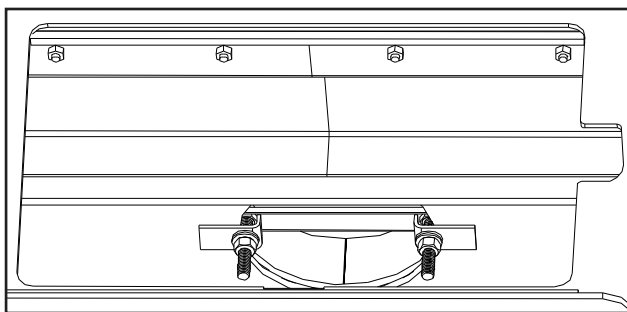
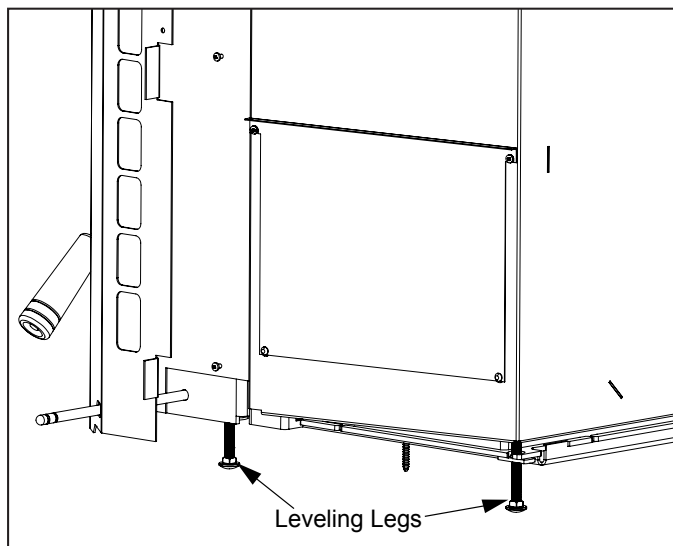

Figure 14: Removable flue collar in place.
Figure 15: Leveling legs.
- f) Place the Collar Puller, over the two bolts of the Flue Collar and pull it into place (see Figure 14). Ensure that the bolts are to the left and right of the hole. If they are not, the front secondary air tube will need to be removed in order to install or remove the C-Cast Ceramic Baffles.
- h) Re-install C-Cast Ceramic Baffles and the rear two (2) secondary air tube (see C-CAST CERAMIC BAFFLE INSTALLATION).
- 3.** There are four (4) leveling legs (shown in Figure 15), two (2) on each side, one at the back and one at the front of the unit. Adjust the legs using a $\frac{3}{8}$ " wrench to ensure the unit is stable.